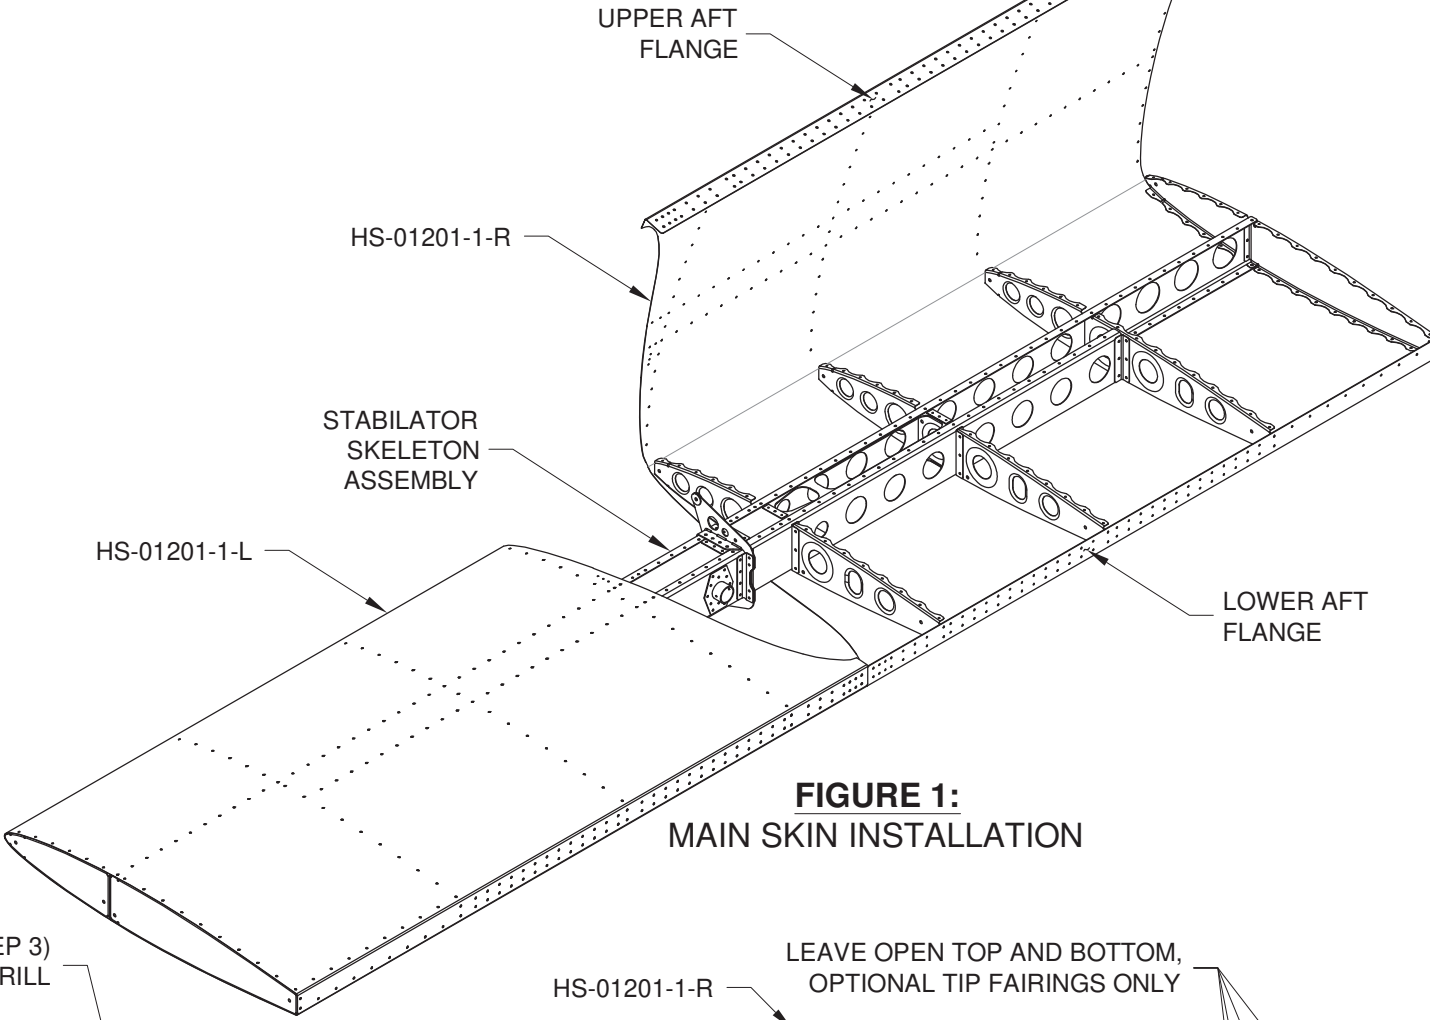

FIGURE 1:
Step 4: Remove the Hinge Stop hardware shown on Page 09iS/U-04, Figure 1 to facilitate riveting.
Step 6: Permanently install the hinge stop hardware as shown on Page 09iS/U-04 Figure 1.